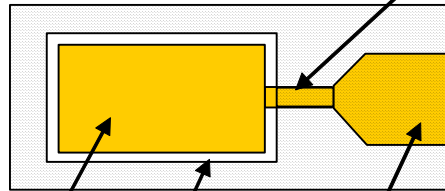

Figure 21. Correct PCB Top Metal Pattern Under Package
2. No additional metal pattern underneath package as shown in Figure 21.